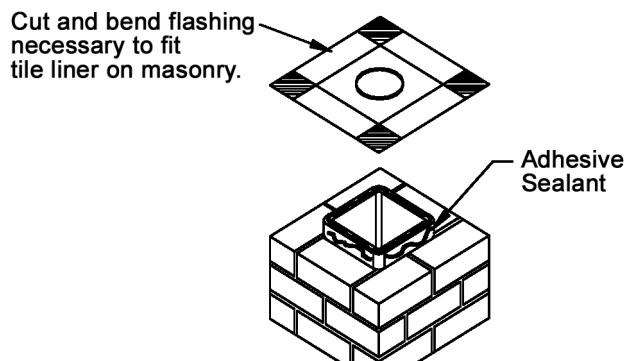

Figure 13
3. **Outside:** Adhere the flashing to the top of the masonry tile liner (existing flue opening) with nonhardening sealant adhesive. Cut and fold the flashing, as needed, to get a proper fit around the tile liner. See Figure 13.